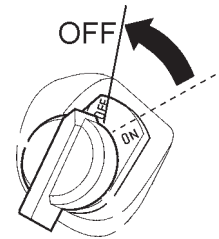

Figure 17. Engine ON/OFF Switch (OFF)
- Place the **engine ON/OFF switch** (Figure 17) in the **"OFF"** position.